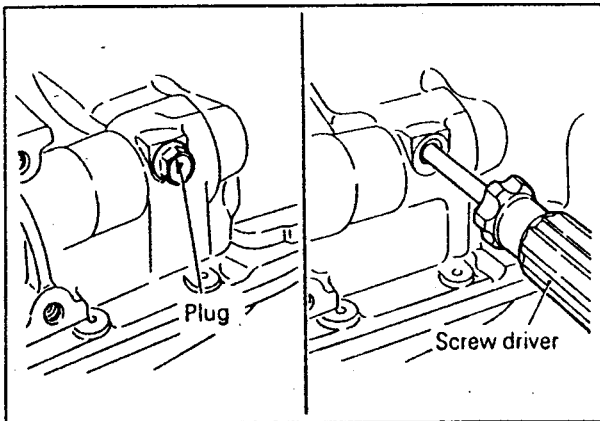

Fig. 15.8. — Preventing the rotation of the balance shaft (silent shaft).
the L.H. side of the cylinder block and insert a screwdriver into the exposed plug opening, as shown in Fig. 15.8 to retain the left-hand balance shaft in its position. The screwdriver shaft should have a diameter of 8 mm (0.31 in.) and a length of 60 mm (2.5 in.).
- Insert a screwdriver through the hole in Fig. 15.8 to counterhold the balance shaft and remove the bolt securing the driven wheel of the oil pump.